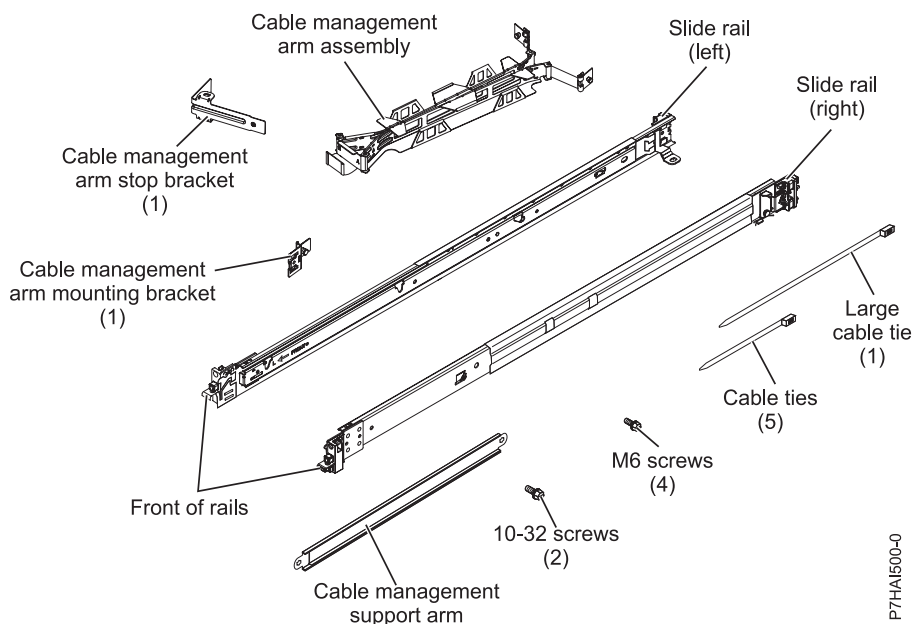

Figure 33. Parts inventory
3. Locate the rack-mounting hardware kit (A) and the rack rails (B) that were included with your system unit as shown in Figure 33.